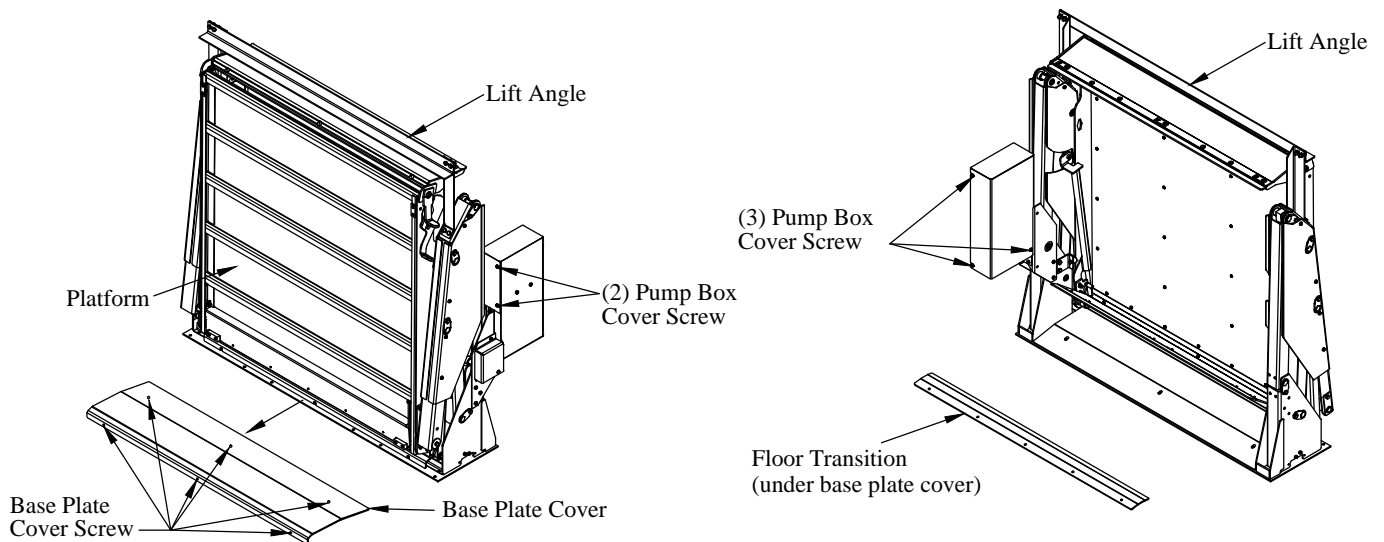

Figure 3: Base plate cover and pump box.
3. **Remove** the pump box cover by removing five (5) screws (Figure 3).
6. **Remove** and **Save** the six (6) screws fastening the base plate cover to the base plate (Figure 3).
7. **Remove** and **Save** base plate cover (Figure 3).
10. Lift the liftgate by the lifting angle with a fork truck or hoist (Figure 3).